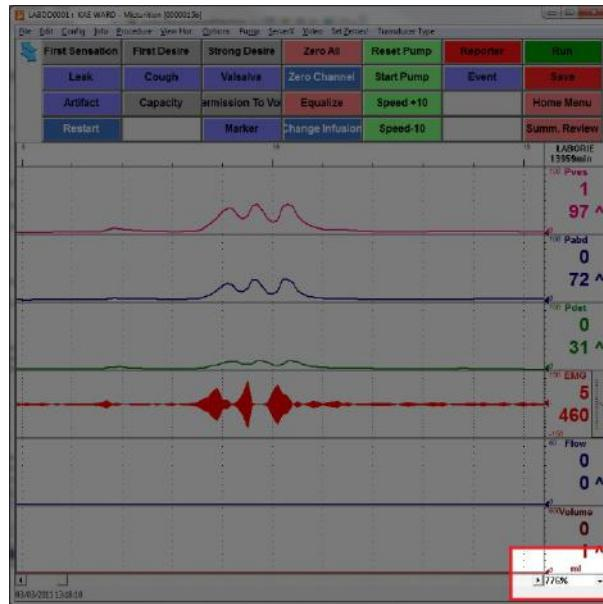

Figure 58: Selected Area Zoomed
2. Click Edit > Zoom Selected Area. The selected area is zoomed in and expands to fill the entire graph window (Figure 58).